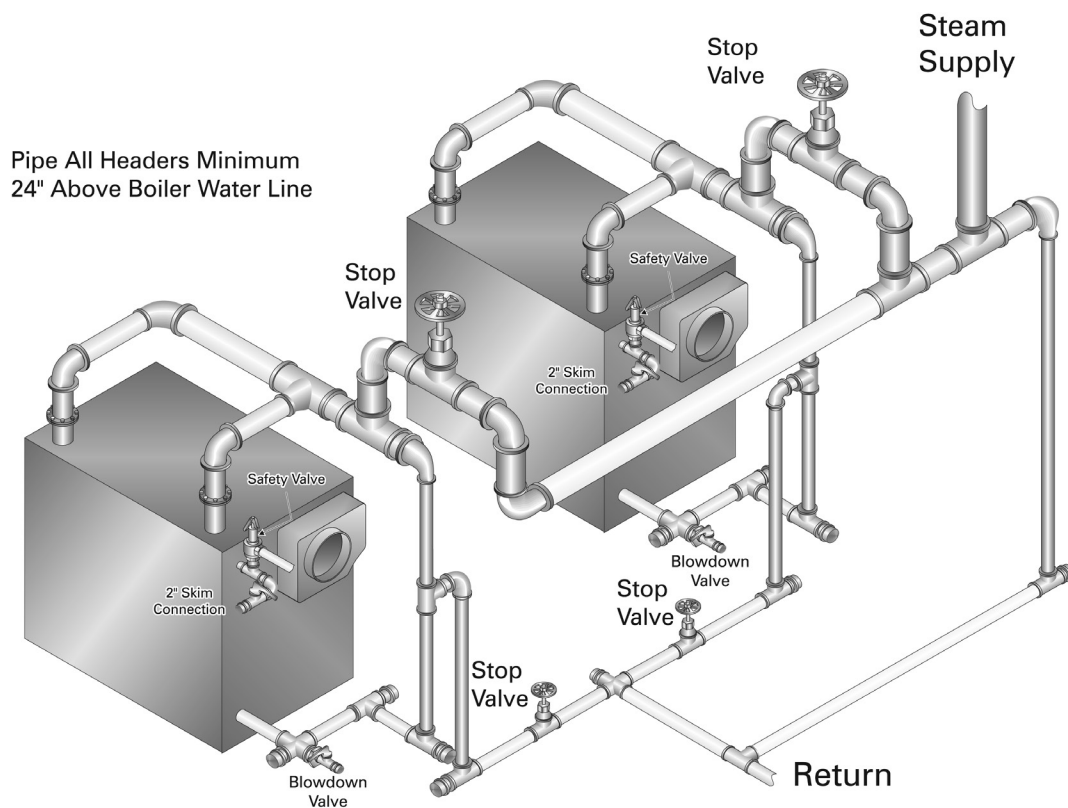
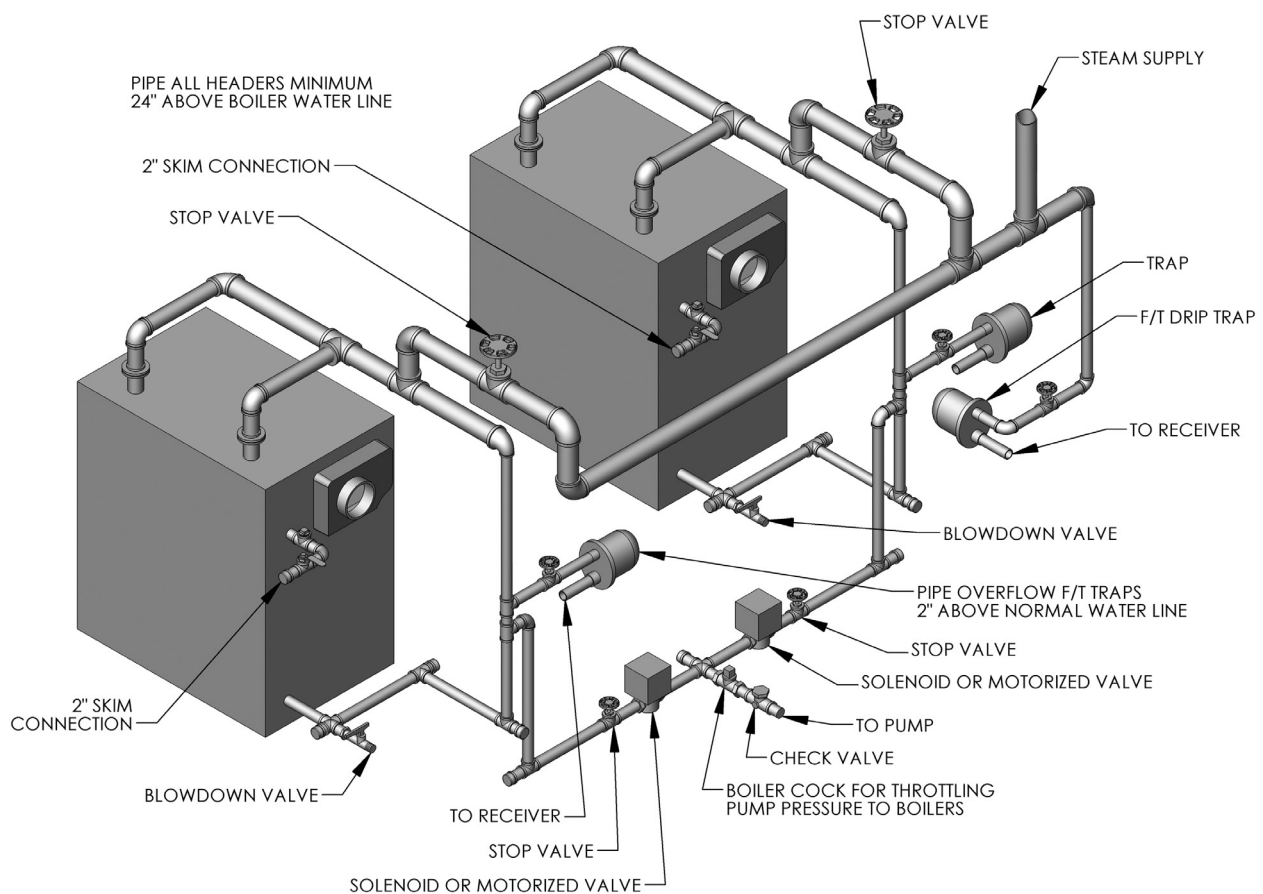

Figure 3.4: Piping Multiple Boilers, Typical, Gravity Return Systems
Figure 3.5: Piping Multiple Boilers, Typical, Pumped Return Systems
- Figure 3.4 shows typical piping for multiple boiler Gravity Return systems. Figure 3.5 show typical piping for multiple boiler Pumped Return Systems.